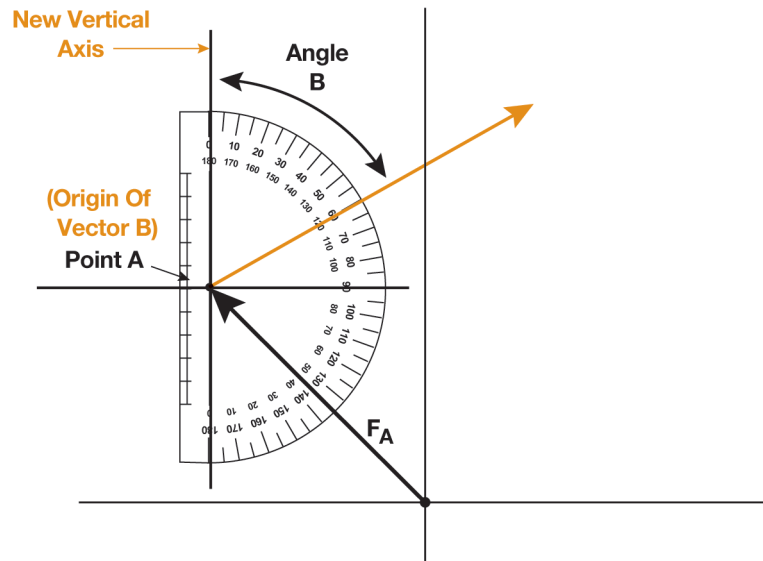

Figure 9
- 4. When adding vectors, the next vector has its origin at the arrowhead of the preceding vector. Draw a vertical axis through point A . Repeat steps 2 and 3, draw vector F_B , and label it vector F_B . See Figure 9.